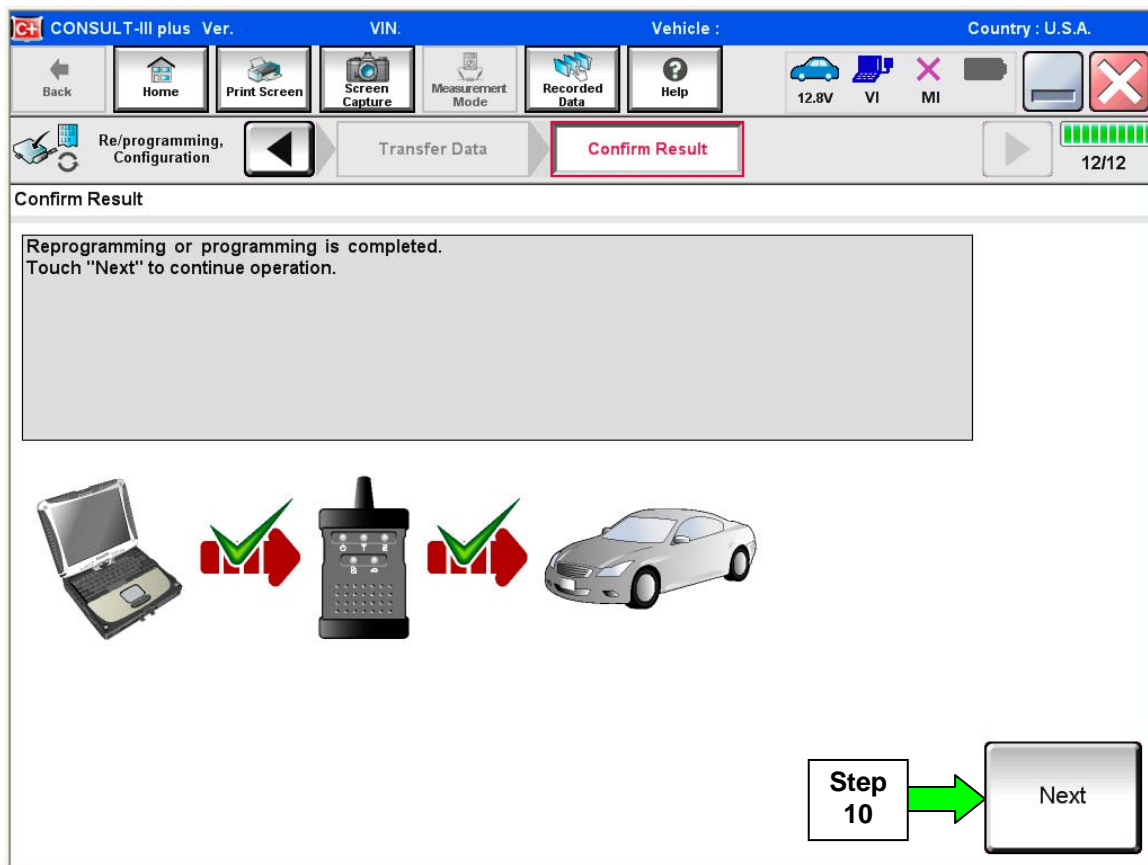

Figure 4
8. When the screen in Figure 4 displays, reprogramming is complete.
NOTE: If the screen in Figure 4 does not display (if reprogramming does not complete), refer to the information on the next page.